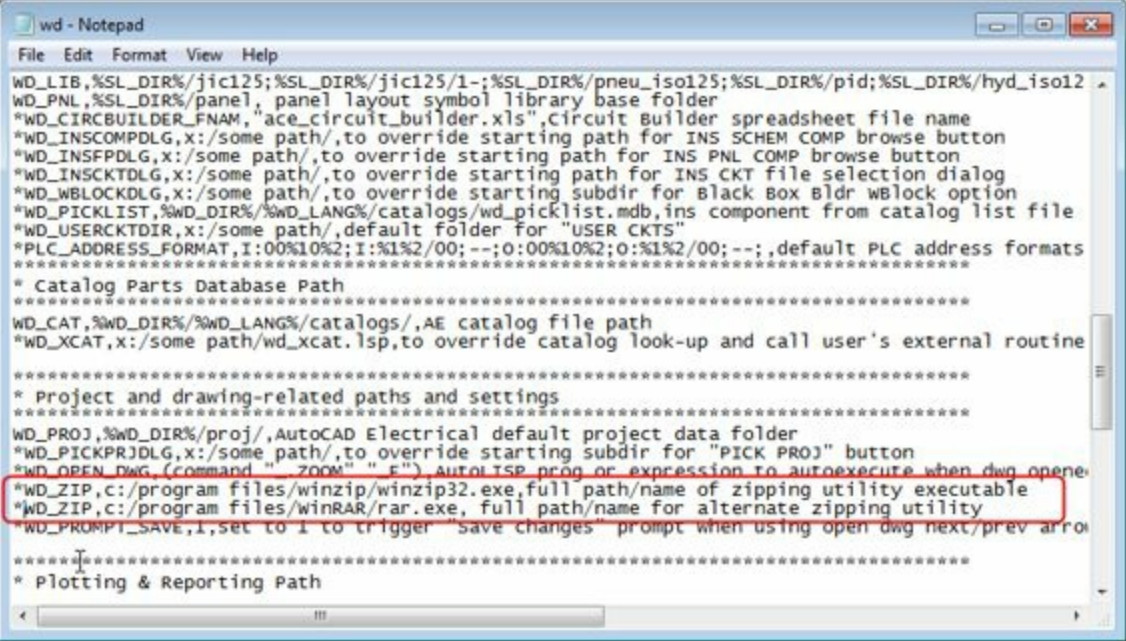

Figure-43. Location to identified
- Move down in the file at the location as shown in Figure-43.